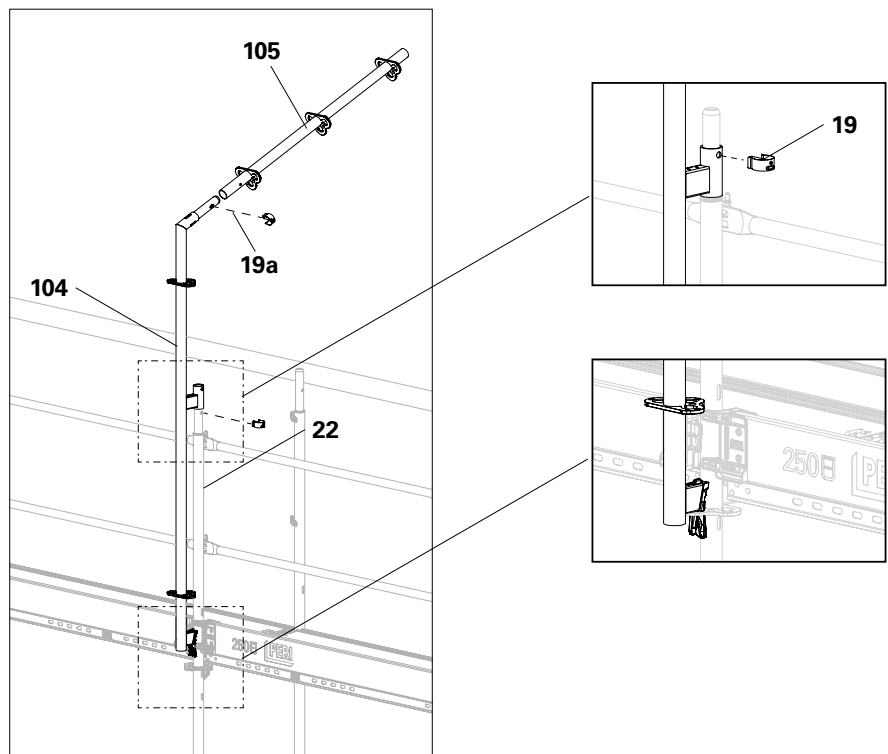

Fig. D3.02
3. Fit Weather Protection EVW 130 (105) or EVW 180 onto the spigot of EVW 200 and secure it with a locking pin (19a).
- (Fig. D3.02)